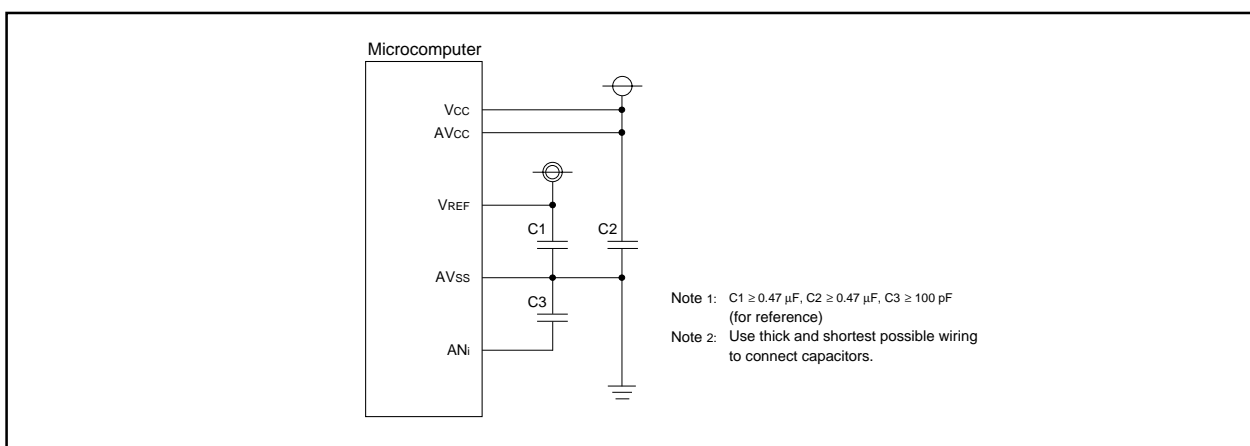

Figure 2.8.16. Use of capacitors to reduce noise
- (2) To reduce conversion error due to noise, connect a voltage to the AVcc pin and to the VREF pin from an independent source. It is recommended to connect a capacitor between the AVss pin and the VREF pin, between the AVss pin and the VREF pin, and between the AVss pin and the analog input pin (ANi). Figure 2.8.16 shows an example of connecting the capacitors to these pins.